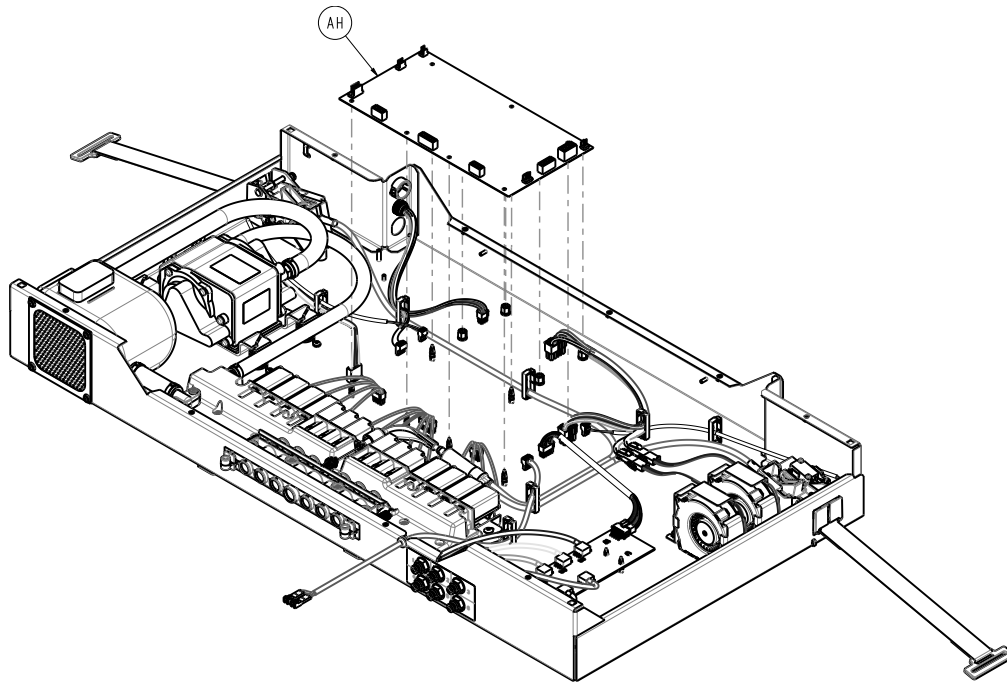

Figure 13 – Main board
3. Remove all wiring connections from the main board (AH) (Figure 13).